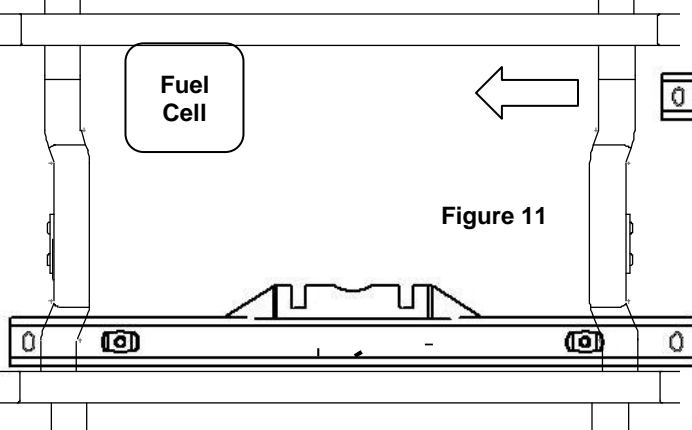

Figure 11
Step 16C : Insert the second rail from the passengers side rear wheel well above the frame. Rest the rail on both chassis frame rails (Figure 11).